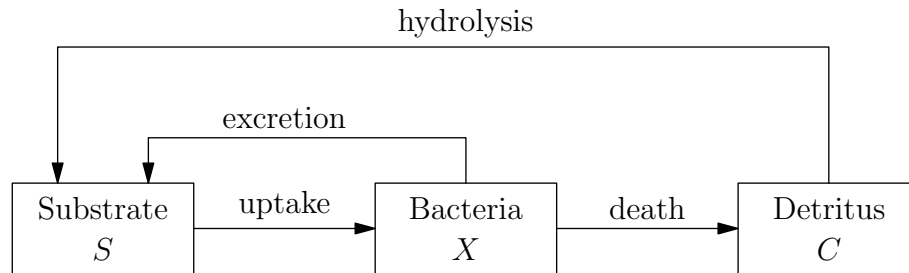

Figure 1: A batch reactor for bacteria growth.
7. (optional) Bacteria growing in a batch reactor utilize a soluble food source (substrate) as depicted in Figure 1. The uptake of the substrate is represented by a logistic model with Michaelis–Menten limitation. Death of the bacteria produces detritus which is subsequently converted to the substrate by hydrolysis. In addition, the bacteria also excrete some substrate directly. Death, hydrolysis and excretion are all simulated as first-order reactions.